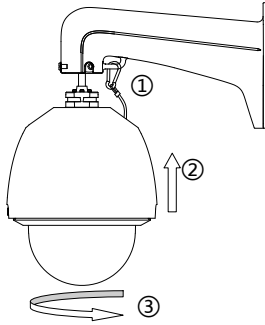

Figure 1-7 Mount the Dome
1. Hang the safety rope to the speed dome and then hook to the mount as shown in Figure 1-7.